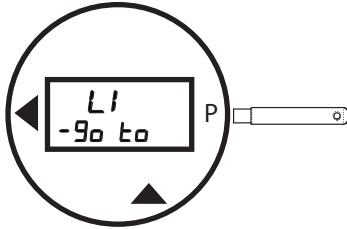

Figure 17.
- Pass the wand over the **P** until you reach the **L1 -Go to** menu selection (Figure 17).